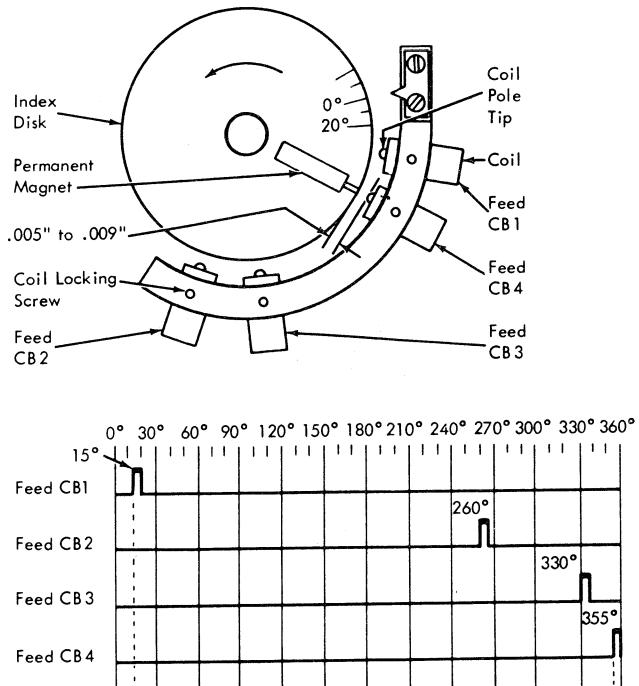

Figure 4-6. Feed CB Emitter Adjustment
- CF CB pulses should occur at specified times (Figure 4-6).
2. Loosen emitter coil lockscrew (Figure 4-6).